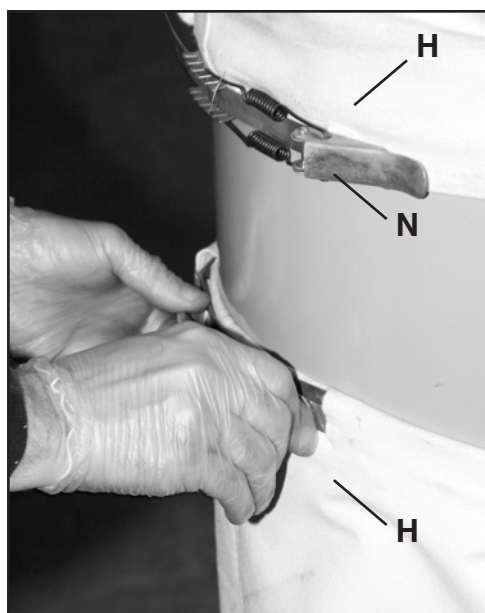

Fig. 10
Your dust collector should now look like the one in Fig. 9. (Model #DC2000Y - 1 micron bag model) Place the collector and filter bags (H) onto the collector and secure with the clamp (N) as shown in Fig. 10.